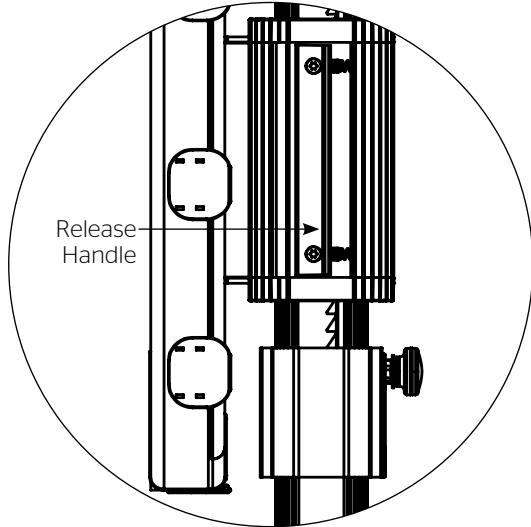

Figure 7
9. Height Adjustment. Fast-Fold NXT screen height is adjustable in 3/8" (10 mm) increments either up or down. Normal screen height is 44" (112 cm) from bottom of frame to floor and is the standard height for use with presentation drapery accessories. To adjust screen height, use the release handle on the leg coupler. Lift slightly while depressing the release handle. See Figure 7.